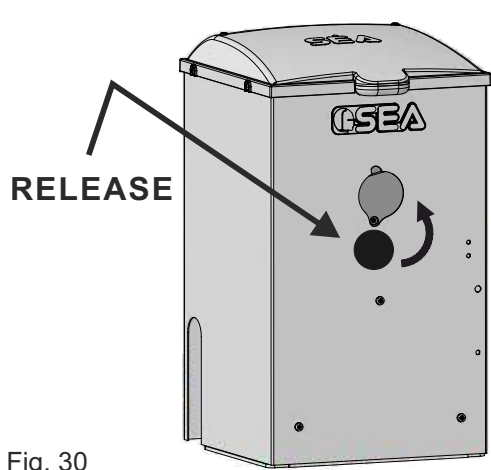

Fig. 30
- Rotate and open the lock cap (Fig. 30)